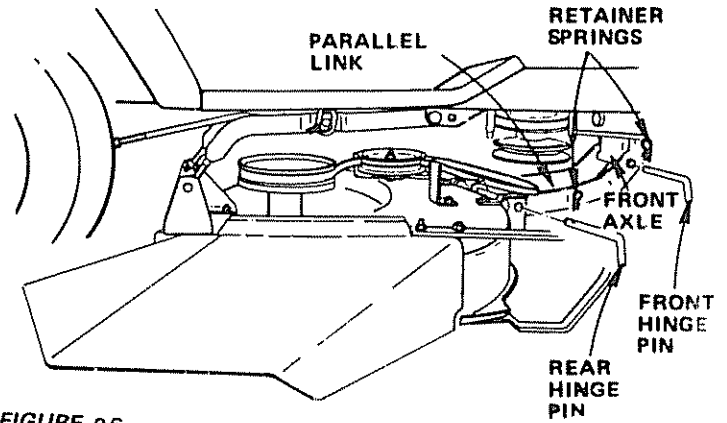

FIGURE 26
- b. Install front hinge pin through axle and parallel link (Fig.26). Secure with retainer spring.
- c. Install rear hinge pin through mower lift brackets and parallel link (Fig.26). Secure with retainer spring.